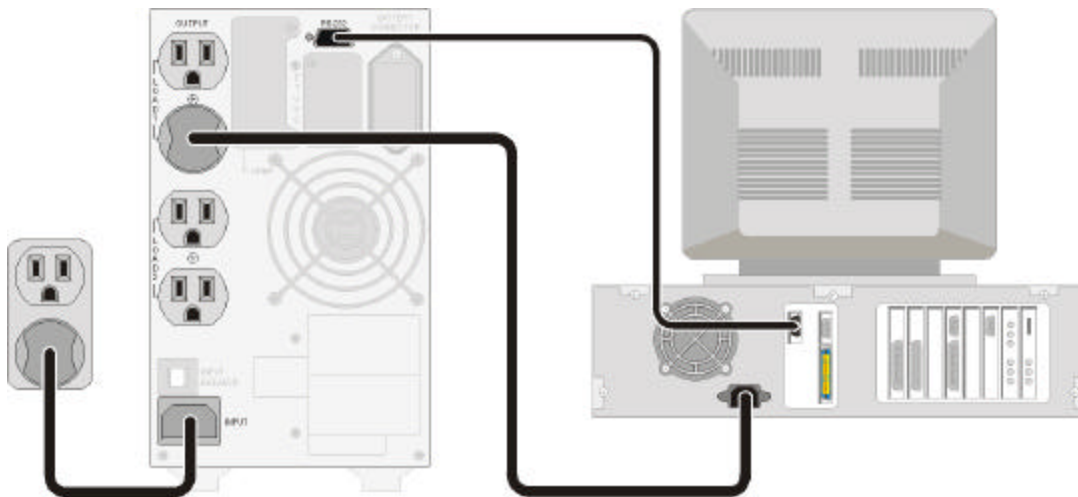

Fig. 2.4 Connecting the UPS to the utility supply and to the load
Connect the interface signal cable between the RS-232/dry contact port on the rear panel of UPS and COM1 or COM2 of your computer if necessary. See fig. 2.4. Refer to chapter 4 for more information.
2. Plug the power cord of the equipment into the output receptacles on the rear panel of the UPS as shown in fig. 2.4. Spread the load over the output receptacles as equally as possible.
Use a suitable power cord, and plug it into the input socket (see fig. 2.4)